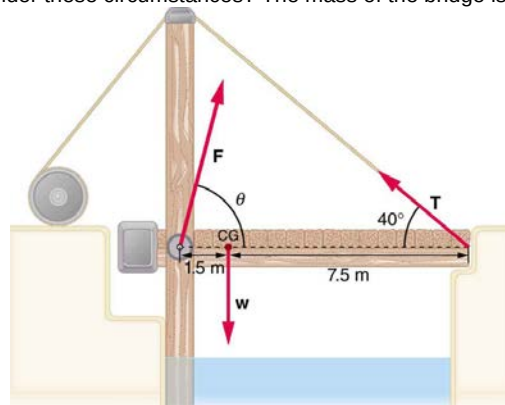

Figure 9.34 A small drawbridge, showing the forces on the hinges (F), its weight (w), and the tension in its wires (T).
- Suppose the weight of the drawbridge in **Figure 9.34** is supported entirely by its hinges and the opposite shore, so that its cables are slack. (a) What fraction of the weight is supported by the opposite shore if the point of support is directly beneath the cable attachments? (b) What is the direction and magnitude of the force the hinges exert on the bridge under these circumstances? The mass of the bridge is 2500 kg.
- Suppose a 900-kg car is on the bridge in **Figure 9.34** with its center of mass halfway between the hinges and the cable attachments. (The bridge is supported by the cables and hinges only.) (a) Find the force in the cables. (b) Find the direction and magnitude of the force exerted by the hinges on the bridge.